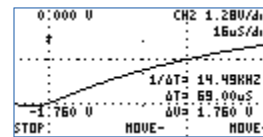

Figure 63: Half-life measurement
- 12) The display should look like figure 63. The measured time $T_{1/2} = 69\mu s$, is the "half-life" time, so $RC = 99.95\mu s$